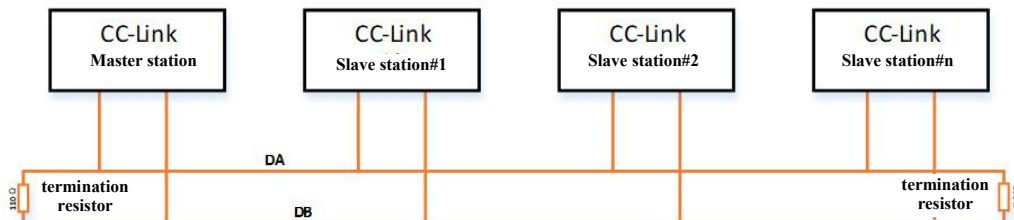

Figure 5-5-2 Terminal resistance cable connection
**Note:** Add terminal resistors (110  $\omega$ ) to the two terminals in the network, as shown in Figure 5-5-2 below.